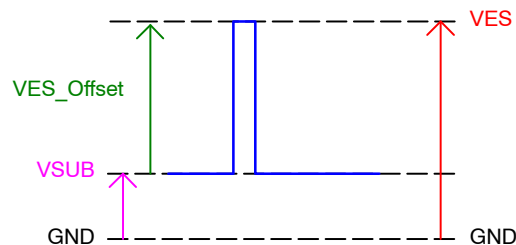

Figure 16. VSUB and VES Reference
- Figure 16 shows the DC bias (VSUB) and AC clock (VES) applied to the SUB pin. Both the DC bias and AC clock are referenced to ground. The VES_Offset is referenced to VSUB.